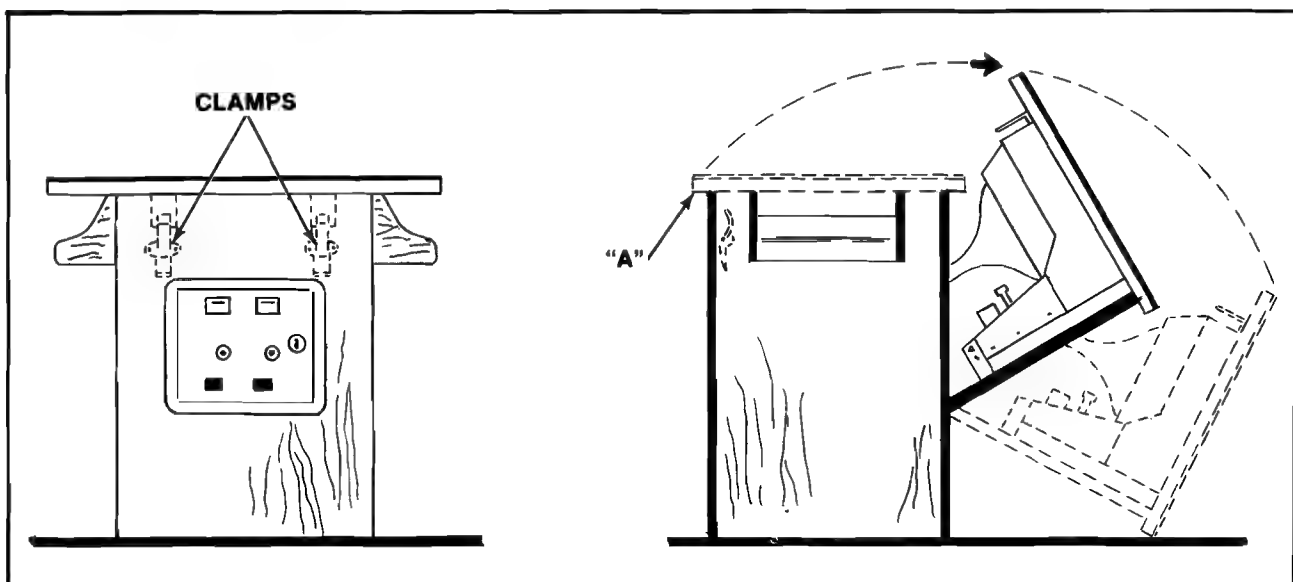

Figure 17 Opening the Cocktail game
Open the coin box door and release the two latches indicated in Figure 17.
- Grasp the table top at "A" and open it as indicated in Figure 17.